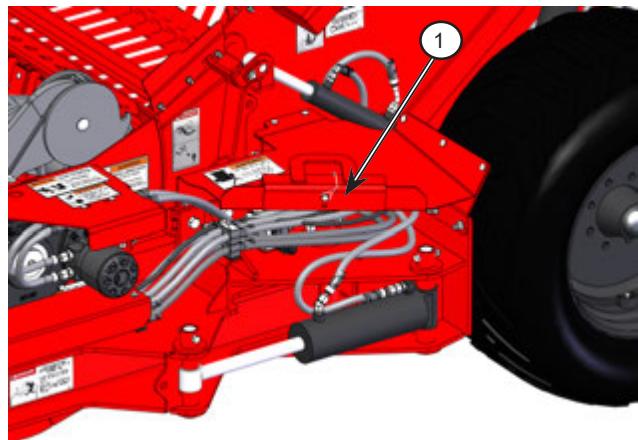

Figure 6.14: Place the hitch transport lock in the storage location
2. Place the hitch transport lock (1) into the storage location on the hitch hose guard; see *Figure 6.14*.